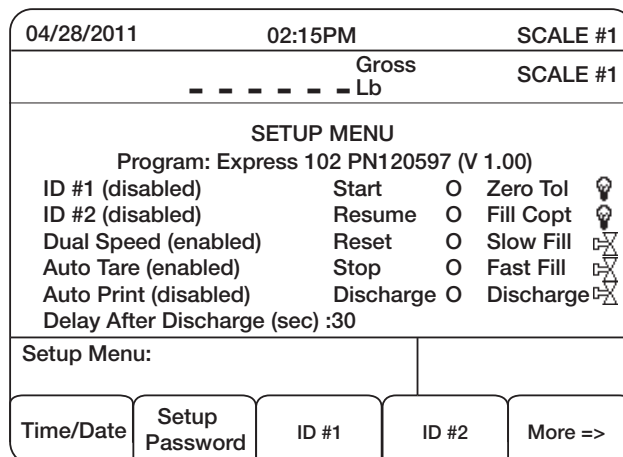

Figure 3-2. Setup Menu Main Screen
- If no system password is entered, the **Setup Menu Main Screen** will display (see Figure 3-2).
- If the password is valid the **Setup Menu Main Screen** will display (see Figure 3-2).
1. From the *Main Setup Menu Screen*, press the **Setup Password** softkey (Figure 3-2).